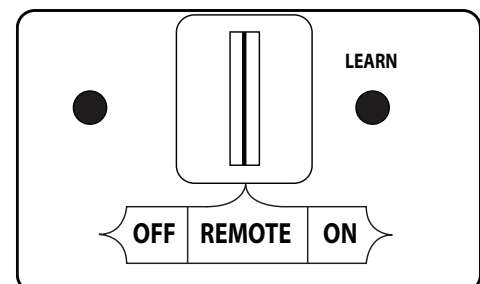

Fig. 29-2 Remote receiver detail (REMOTE)
1. Ensure the pilot is burning. Then locate the 3-position switch on the remote receiver (see Fig. 29-2), and slide the switch to the **REMOTE** position.